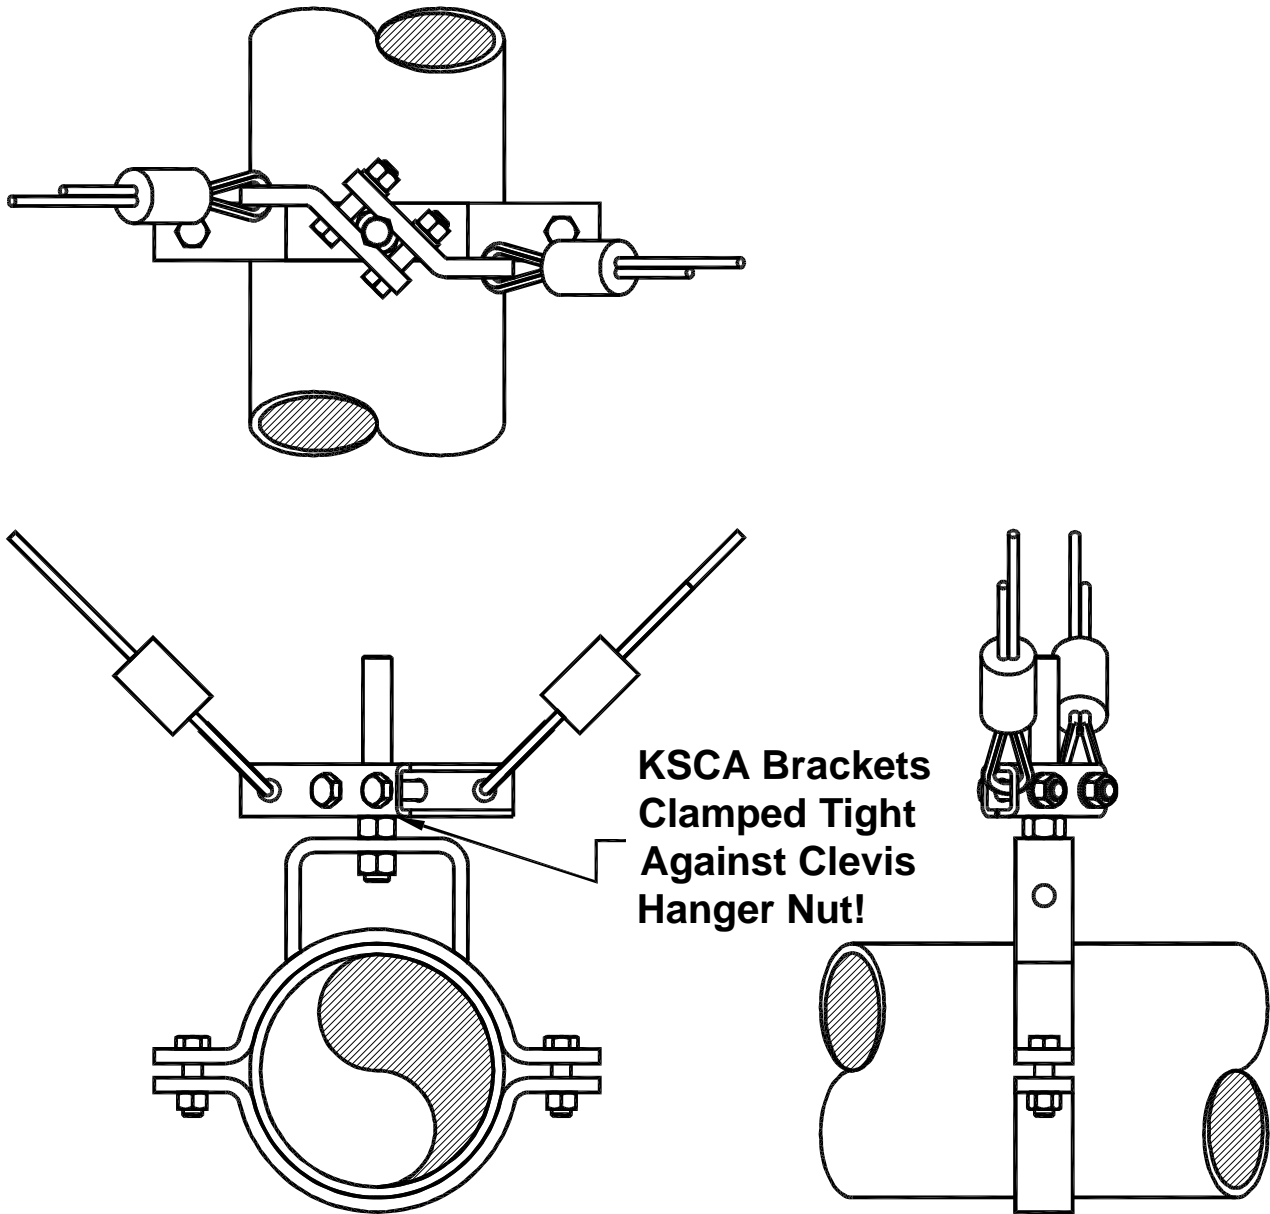
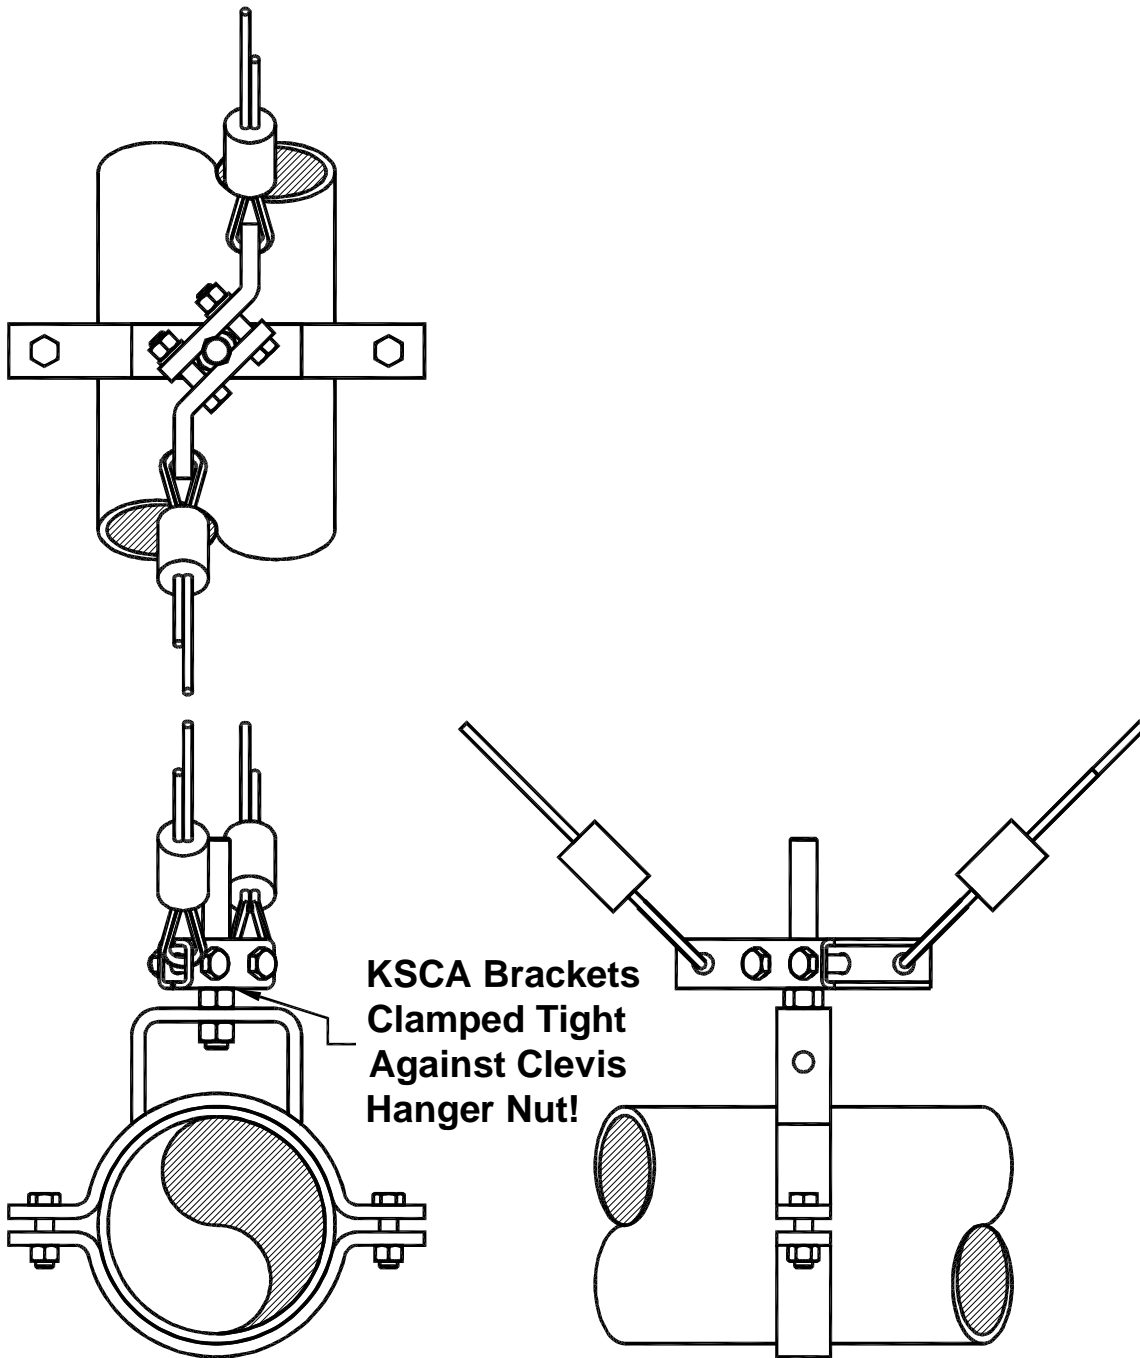

Figure I6-21; KSCA Brackets Attached to the Hanger Rod of a Commercially Available Clamp Type Clevis Hanger – Transverse (T) Restraints
Figure I6-22; KSUA Brackets Attached to the Hanger Rod of Commercially Available Clamp Type Clevis Hanger – Longitudinal (L) Restraints
The commercially available clamp type clevis hangers shown in Figure I3-13 may be used with the KSCA brackets. Figure I6-21 shows this type of clevis hanger with transverse (T) seismic restraints. Figure I6-22 shows the use of this hanger type with longitudinal (L) restraints. Figure I6-23 shows how combined transverse and Longitudinal (TL) restraints may be attached to this type of clevis hangers.